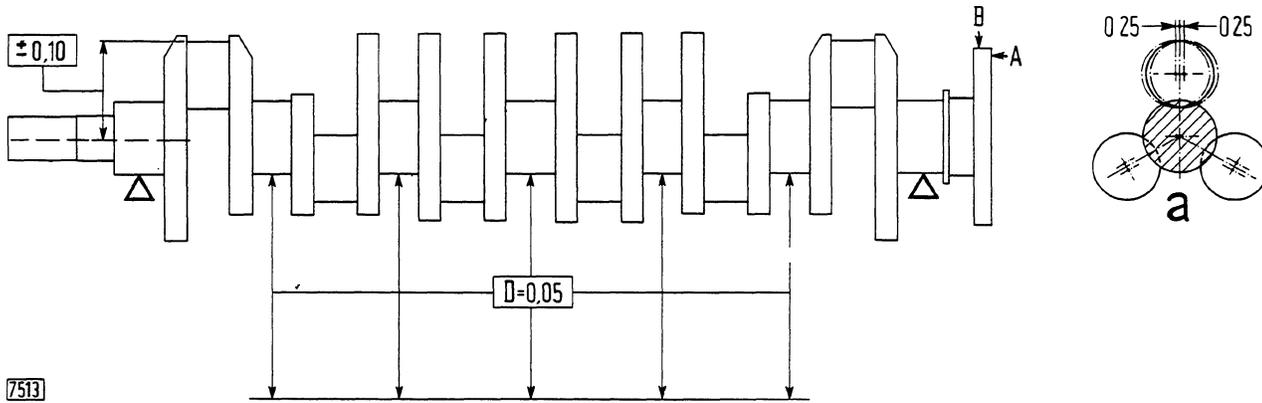

Fig. 27 - Max. tolerances on main and connecting rod journal alignment.
- the axis of each pair of connecting rod journals and the axis of the main journals are on the same plane; max. tolerance perpendicular to this plane is ± 0.25 mm (± 0.0098 in) (fig. 27) ;
- max. tolerance on main journal alignment (total gauge reading) is 0.05 mm (0.00196 in) (fig. 27) ;
of rotation is within ± 0.10 mm (0.0039 in (fig. 27) ;
- a gauge placed in (A, fig. 27), on a diameter of 119 mm (4.68 in) does not reveal perpendicularity variations higher than 0.025 mm (0.00098 in) and the same gauge placed on flywheel centering seat (B) does not indicate variations higher than 0.03 mm (0.00118 in).